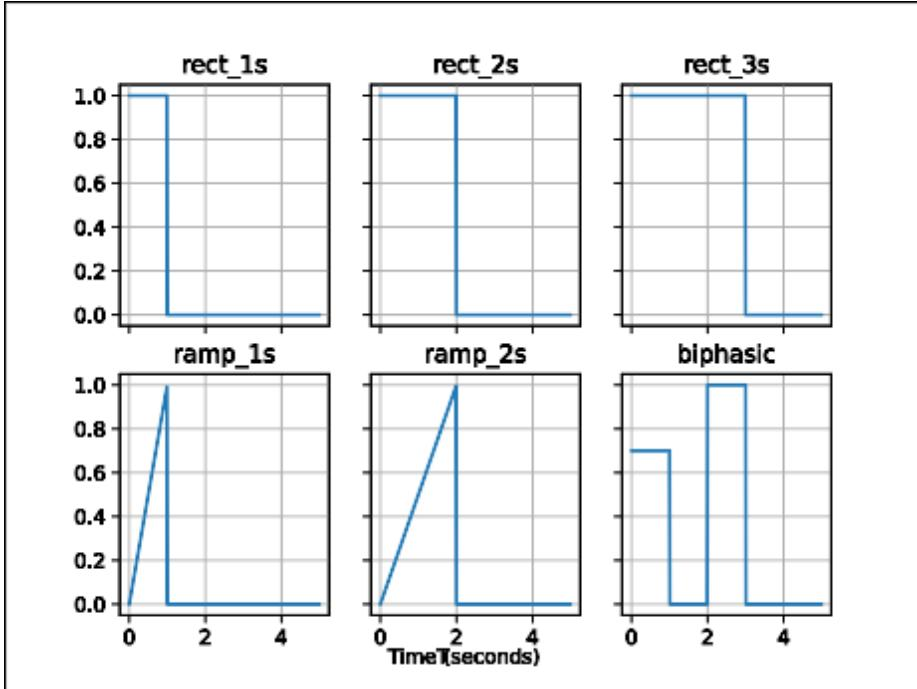

Figure 5: The different injection protocols used for the CFD simulations.
1. Make Python functions that reproduces *at least* three other injection protocol than `rect_1s` (i.e. minimum four in total) from figure 5, as an inspiration you can use the code below for the `rect_1s`
1. Use the ODE solver you developed in Exercise 1 to find the effluent concentration of the last mixing tank. All  $C_i(0) = 0$ ,  $i = 0, \dots, N - 1$  and  $C_{inj}$  as shown in figure 5 (top left `rect_1s`).
- Choose *at least* three other injection protocol than `rect_1s` from figure 5, use the model you ended up with in part 4 to predict what will happen.